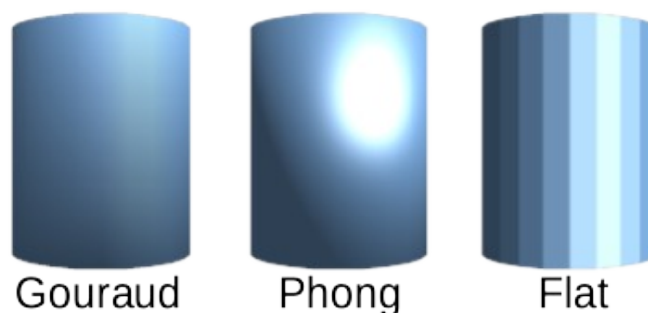

Figure 21: Examples of shading mode
- **Shading** – specifies the mode of shading applied to a 3D object (Figure 21).